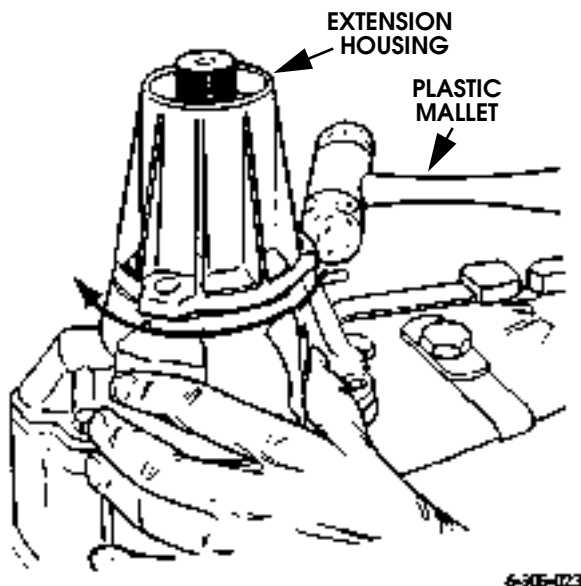

Figure 5-83: Loosening Extension Housing
3. Remove extension housing bolts. Then tap housing in counterclockwise direction to break sealer bead (Figure 5-83). Use plastic mallet to tap housing.